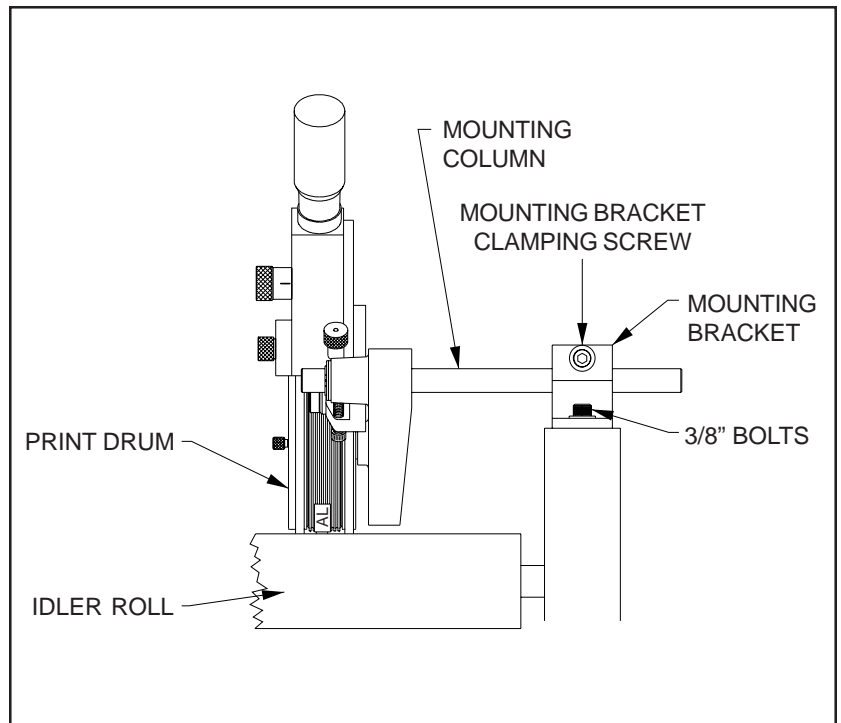

FIGURE 34
**1 - After determining the best location to mount the coder, install the supplied mounting bracket (Figure 34) on a rigid surface using two 3/8" diameter bolts, nuts, washers and lock washers (not supplied). Be sure that the mounting column of the coder is parallel to the idler roll.**